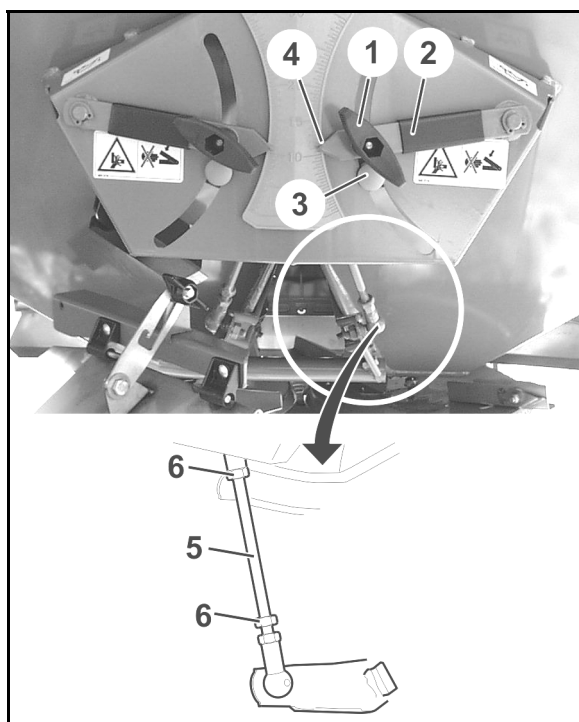

Fig. 98
5. After the thumb nut is unscrewed (Fig. 98/1), the setting lever (Fig. 98/2) must come to rest against the stop (Fig. 98/3).
- In this position, the read-off edge (Fig. 98/4) must display the value of "11" on the scale for the slider position.
**If this is not the case, modify the position of the stop (Fig. 98/3) by twisting the connecting rods (Fig. 98/5) accordingly:**
7. Unscrew the lock nuts (Fig. 98/6) of the connecting rods (Fig. 98/5).
8. Twist the connecting rod until the stop (Fig. 98/3) rests against the setting lever (Fig. 98/2).